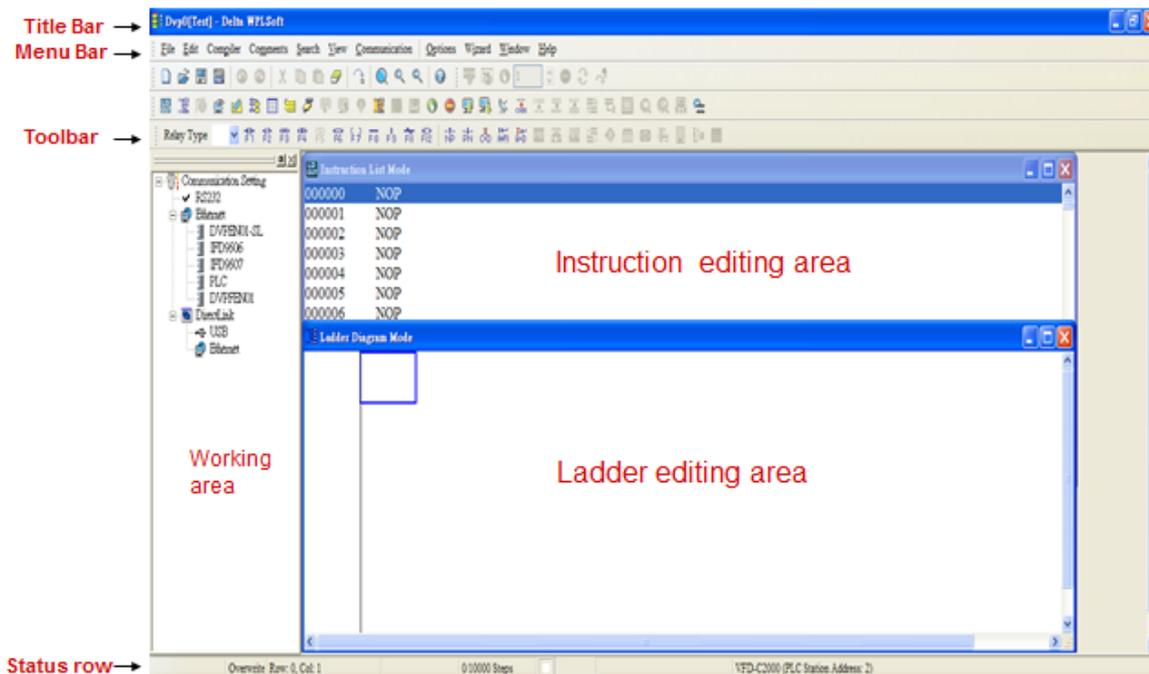

Figure 16-10
**NOTE:** The next time you run WPLSoft, the program opens the last project file you edited. Figure 16-10 describes the main parts of the WPLSoft editing window.